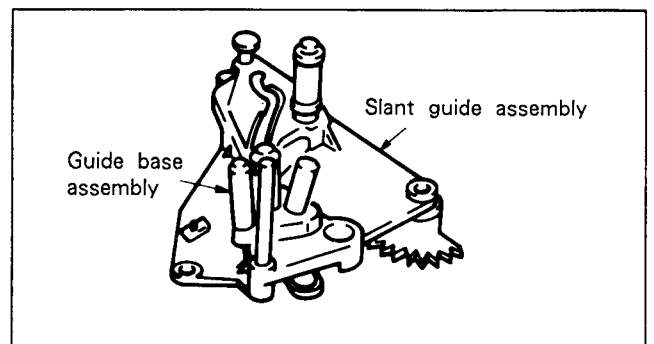

Fig. 7-28.
- 2) Set the slant guide block assembly guide base assembly in unthreaded state (guide base assembly is on front panel side) and mount. (See Fig. 7-28.)